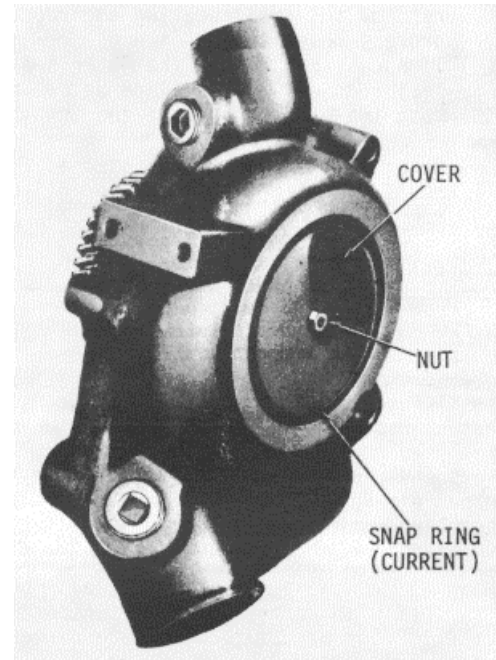

Fig. 7 High Capacity Water Pump
The water seal can be replaced without removing the pump if the radiator, fan and fan shroud or heat exchanger have been removed. (1) Remove the pump cover retaining ring (Fig. 7), from the groove in the pump body, with a screwdriver.